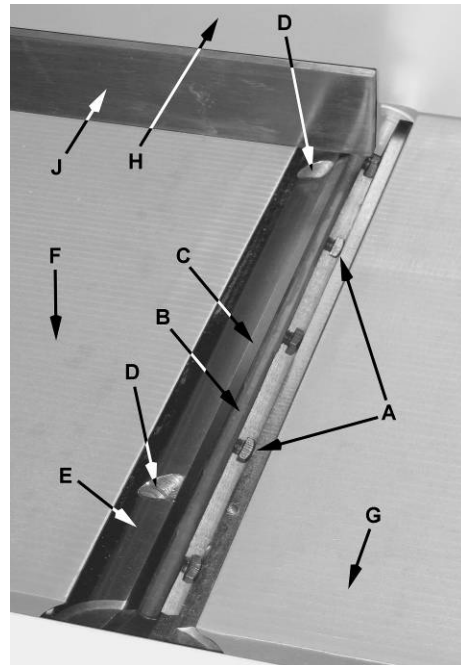

Figure 11
Refer to Figures 11 and 12:
5. Set a *straightedge* (J) on the *outfeed table* (F) near the *fence* (H). One end of the straightedge should be positioned over the *cutting knife* (C) near the end of the blade as shown in Fig. 11.